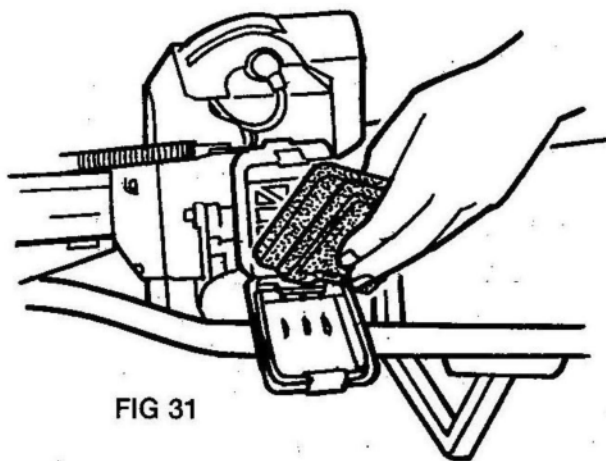

FIG 31
Clean and re-oil the air filter every 5 hours of operation or daily. Sand from bunkers is very abrasive and can damage engine quickly (Fig 31 & 32).
5. Reinstall the filter (Fig. 31) air filter cover.
2. If air filter is dirty then correct idle adjustment can not be made and air filter must be cleaned. Refer to Air Filter Maintenance and Figs 31, 32 and 33A.